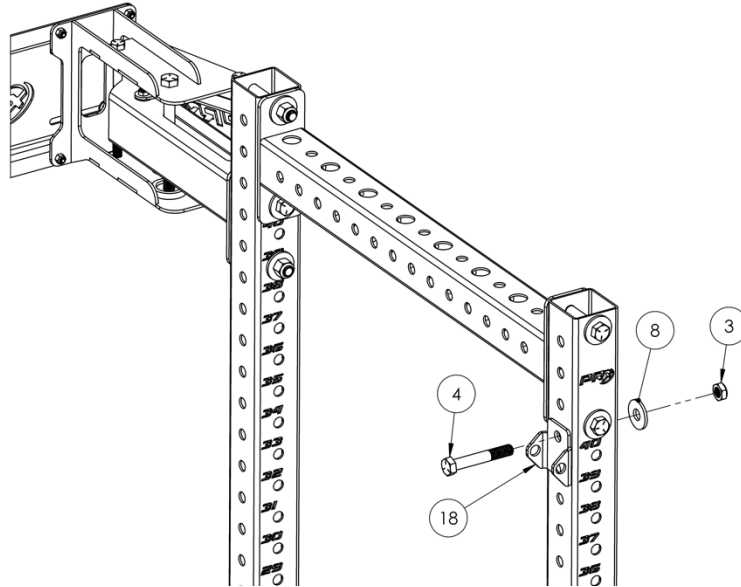

Figure 8: Bolting on the second pull-up bar connection bracket
2. Attach the second pull-up bar bracket (17) to be even with the opposite pull-up bar bracket using a 4" x 5/8" Hex bolt (4), a 5/8" flat washer (8), and a 5/8" thin locknut (3) (**Figure 8**).